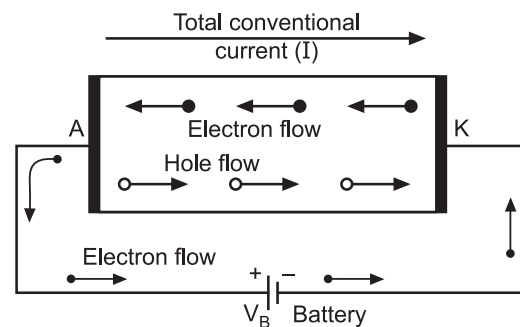

Fig. 1.6 : Conduction of current in an intrinsic semiconductor
- **When the flow of charge carriers is due to an applied voltage (as shown in Fig. 1.6), the resultant current is called a drift current.**